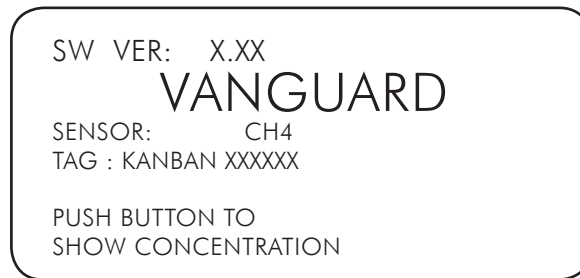

Figure 8
7. Once activation is done, the front panel display will display the device name, HART long tag, and the software version, along with an instruction to push button to show gas concentration (see Figure 8).
10. Once the sensor initialization process is complete, a “Sensor Active Calibrate New Sensors” message will show (see Figure 14) before automatically returning to home screen (Figure 8).